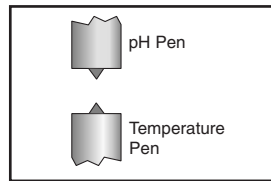

Figure 2-11. Vertical Alignment of Pens (pens can't be inserted)
- b. If the pen arms are vertically aligned as shown in Figure 2-11, do the following and then proceed to Step 3.